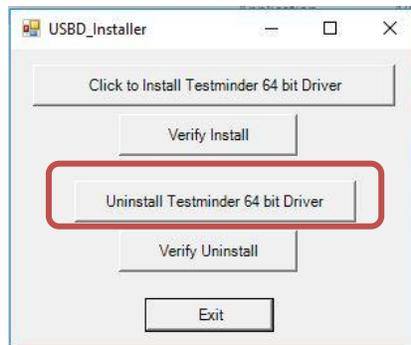

Figure 37 USB D Installer screen
2. On the screen that opens up click on the “Uninstall Testminder 64 bit Driver” button (Figure 37). A couple of command prompt screens will pop up working on the process, after it is complete they will disappear.